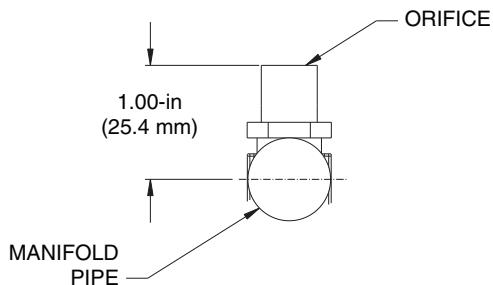

Fig. 33 — Orifice Projection
Refer to Fig. 33 for maximum projection dimension for orifice face to manifold tube.
5. If factory orifice has been removed, check that each orifice is tight at its threads into the manifold pipe and that orifice projection does not exceed maximum valve. (See Fig. 33.)
This unit uses orifice type LH32RFnnn (where nnn indicates orifice reference size). When replacing unit orifices, order the necessary parts via Carrier RCD. See Table 10 for available orifice sizes. See Table 12 for orifice sizes for Natural Gas and LP fuel usage at various elevations above sea level. Check that each replacement orifice is tight at its threads into the manifold pipe and that orifice projection does not exceed maximum value. (See Fig. 33.)